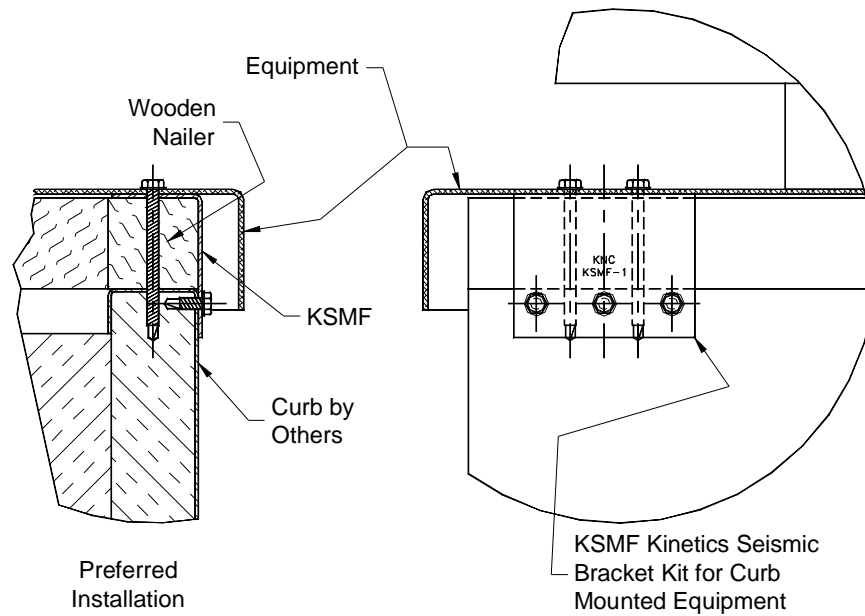
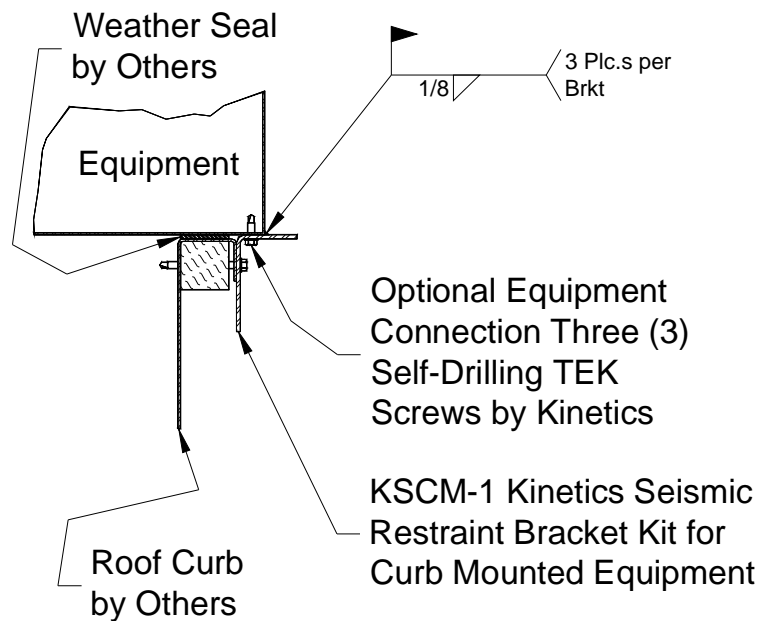
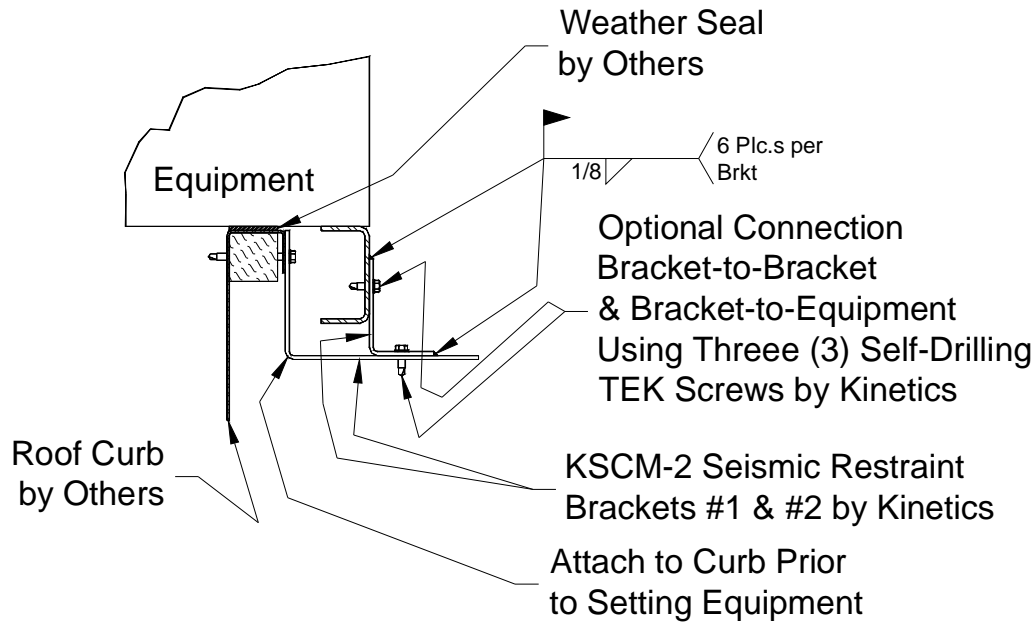

Figure D6.1-6: Typical KSMF Seismic Attachment Kit Installation.
Figure D6.1-7; Typical KSCM-1 Horizontal Seismic Attachment Kit Installation.
Figure D6.1-8; Typical KSCM-2 Horizontal Seismic Attachment Kit Installation.
The horizontal seismic /wind restraint kits provided by Kinetics Noise Control are the models **KSMF**, Figure D6.1-6; **KSCM-1**, Figure D6.1-7; and **KSCM-2**, Figure D6.1-8. A minimum of four (4) kits are required for each curb. One (1) kit for each curb side wall.